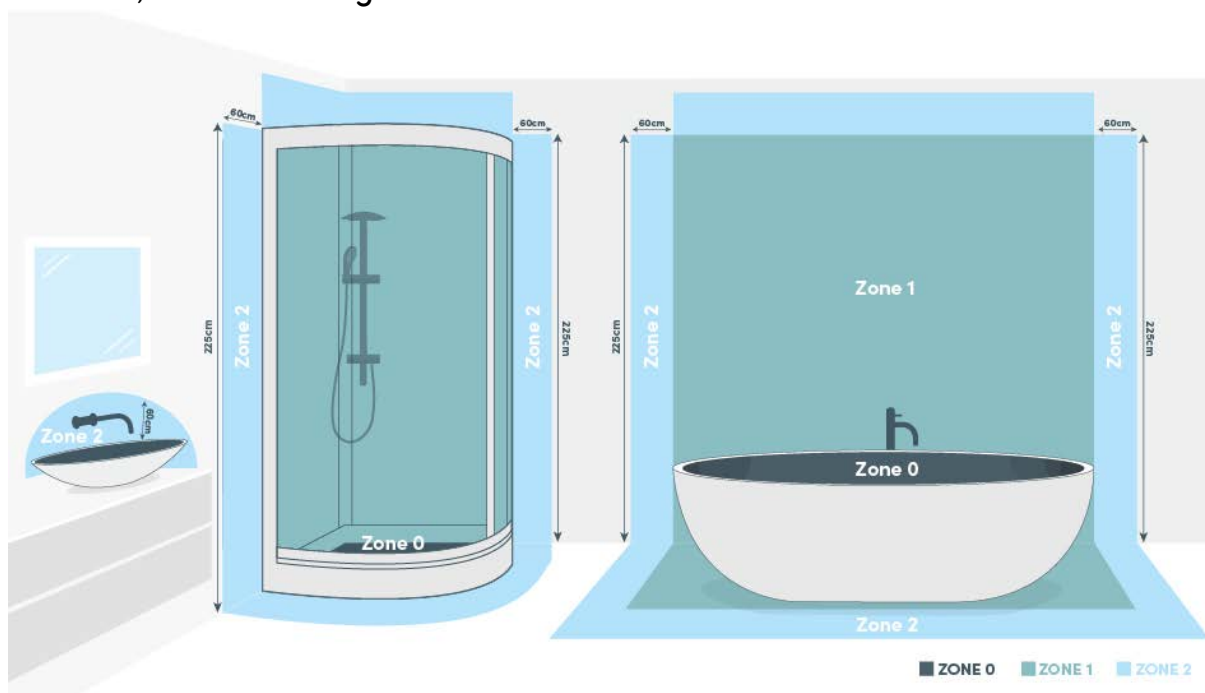

Figure 1 | Bathroom installation zones
- The element can be installed in bathrooms in Zone 1, as defined by applicable law, subject to any additional regulations concerning electrical installations in wet areas, as shown in **Figure 1**.